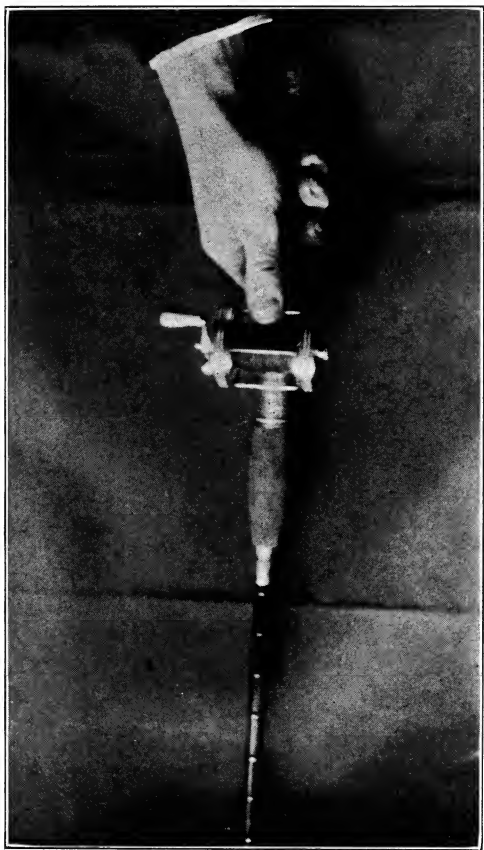

Fig. 7 — Position of Hand and Reel in Casting
Beginners may fail to notice an important point in connection with the timing of the reel for adjustment by the watch. The present-day quadruple multiplying reels—most of them, at least—will spin longer when the spool is horizontal than otherwise, but this is not a fair test, as in casting with the short rod the hand is turned to the left—(1) to insure the line running through the guides and top without fouling the rod; and (2) because there is less friction on the bearings of the reel when it is held handle up (Fig. 7). In timing his reel the novice will naturally turn the balance handle from left to right, and if it spins say twenty-one seconds, he will put that down as its time and never stop to consider the fact that he is turning it backward, or in the direction the handle turns when the spool is taking up the line—where smoothness and speed do not so much count.